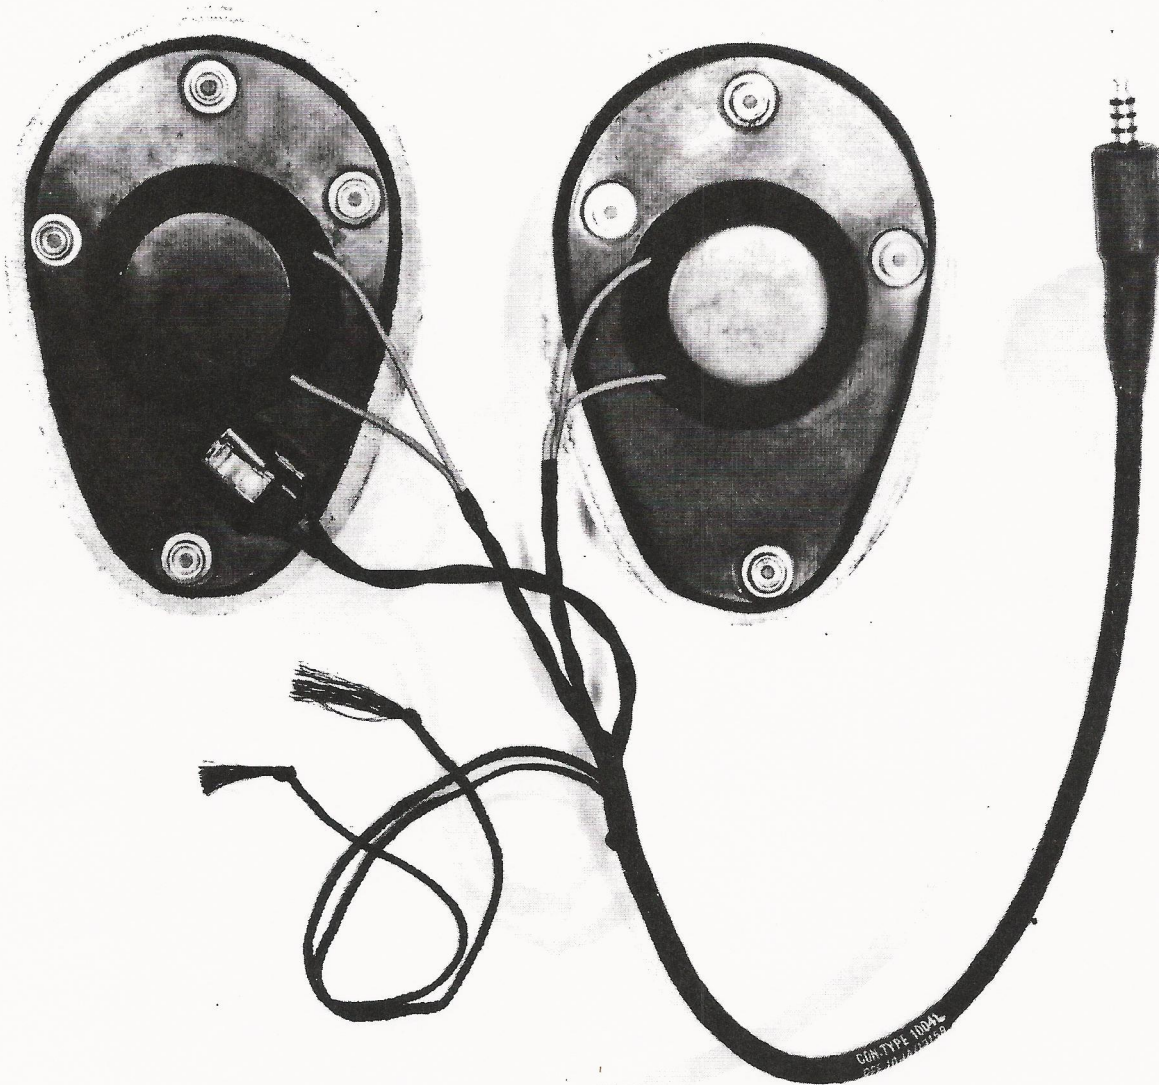

Fig.3 Type G helmet earpads and cable assembly
2.3 Unfasten the two earpads from the eight button fasteners and remove them complete with cable assembly from within the helmet (Fig.3).